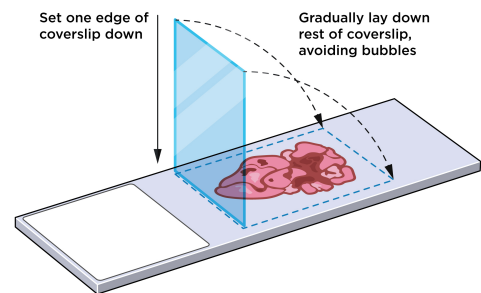

Figure 7: Applying coverslip
7. **Gently apply a Grace Bio-Labs HybriSlip.** Start by setting one edge of the coverslip down in solution on the slide, then gradually laying down the rest of the coverslip to avoid the formation of air bubbles (see Figure 7).